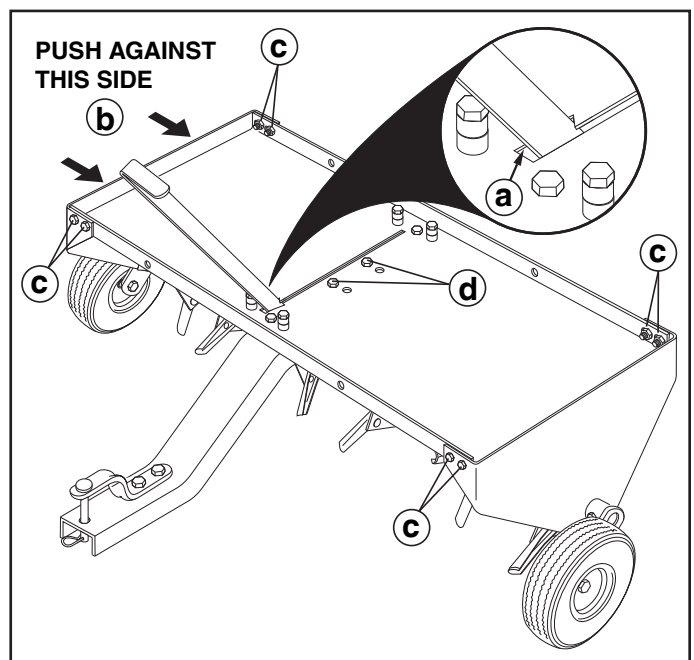

FIGURE 12
18. Perform the following steps in sequence to assure secure locking of the lift handle. Refer to figure 12.